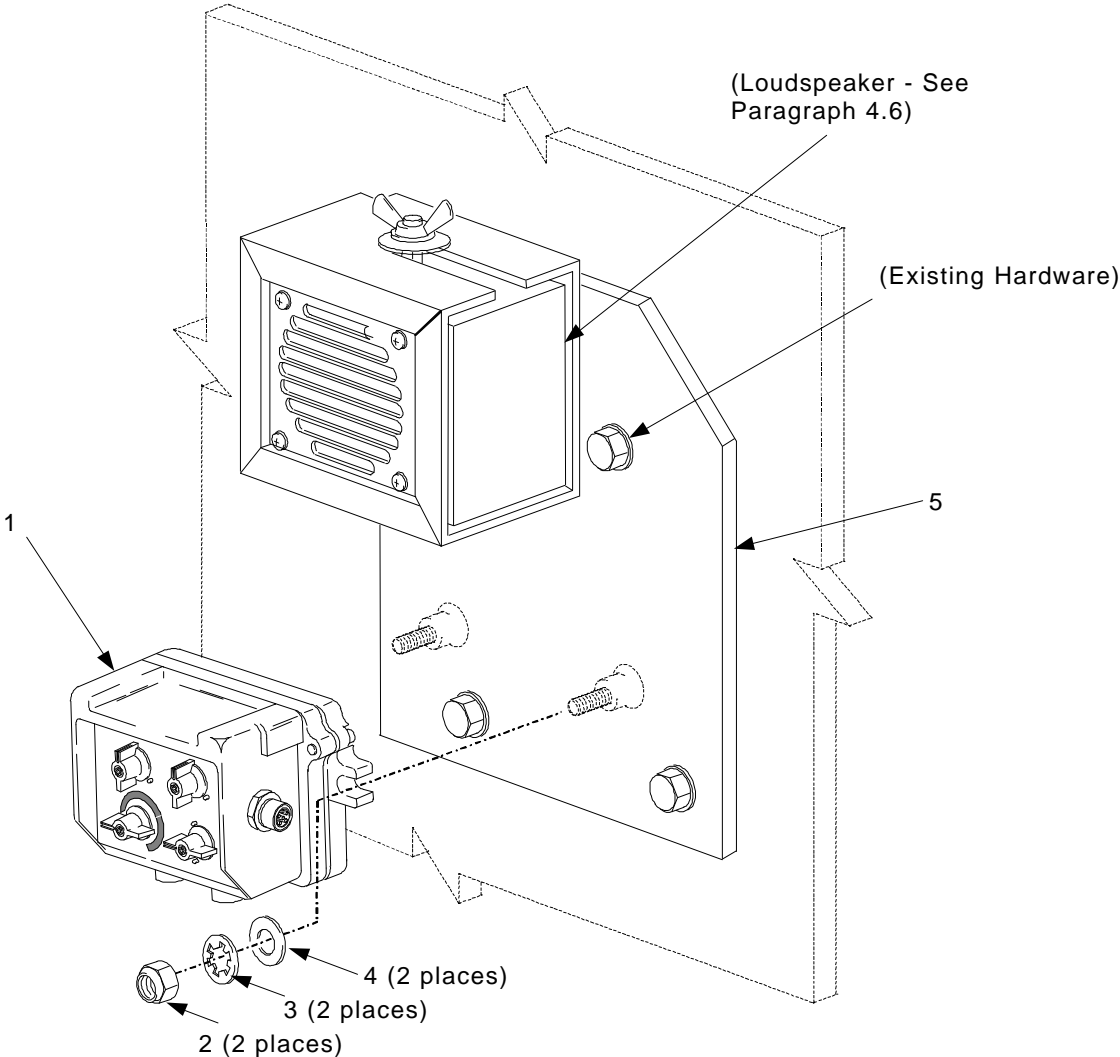

Figure 4-4. Loader's FFCS Installation
(1) Install and secure the Loader's FFCS/Loudspeaker bracket (5) to the roadside wall as shown in Figure 4-4, using existing hardware and the following tools:
(2) Install and secure the Loader's FFCS (1) to the Loader's FFCS/Loudspeaker bracket (5) in the sequence(s) shown in Figure 4-4 using the parts listed in Table 4-2 and the following tools:
Install and secure Loudspeaker to Loader's/Loudspeaker Bracket on the roadside wall by sliding loudspeaker shaft into bracket slot. Tighten wing nut by turning clockwise. See Figure 4-4.